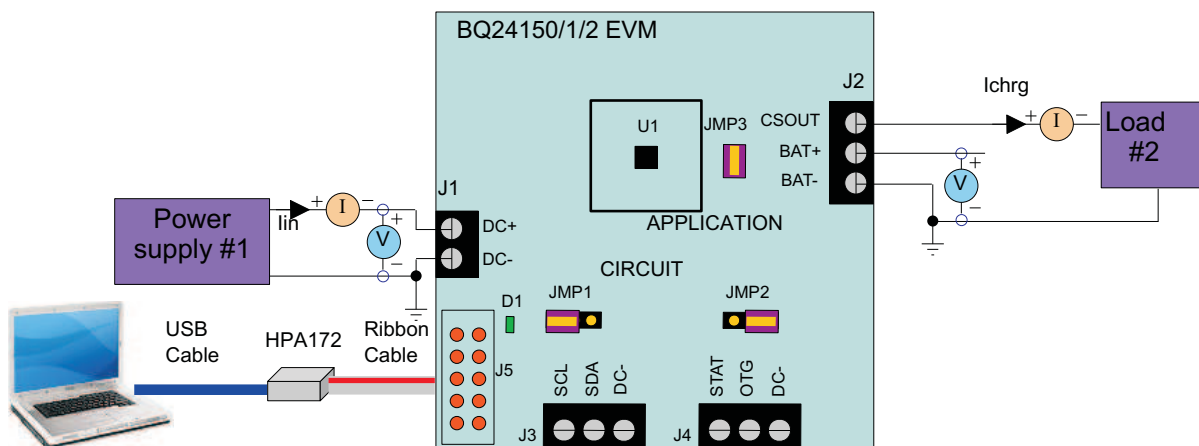

Figure 2. Original Test Setup for HPA256 (bq2415x EVM)
- After the steps above, the test setup for HPA272 is shown in Figure 2